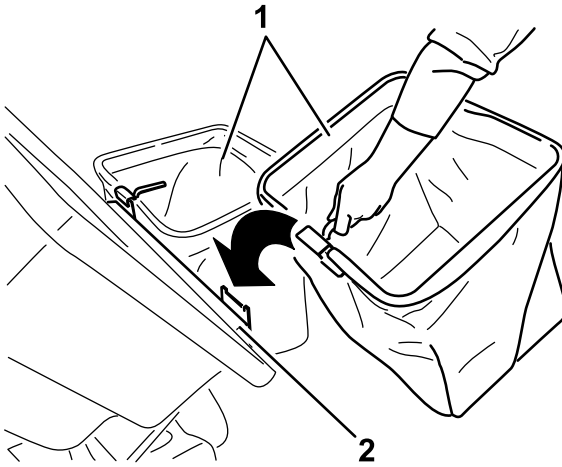

Figure 12
5. Lift the bagger hood and install the bags by sliding the bag frame hooks onto the retaining brackets (Figure 12).